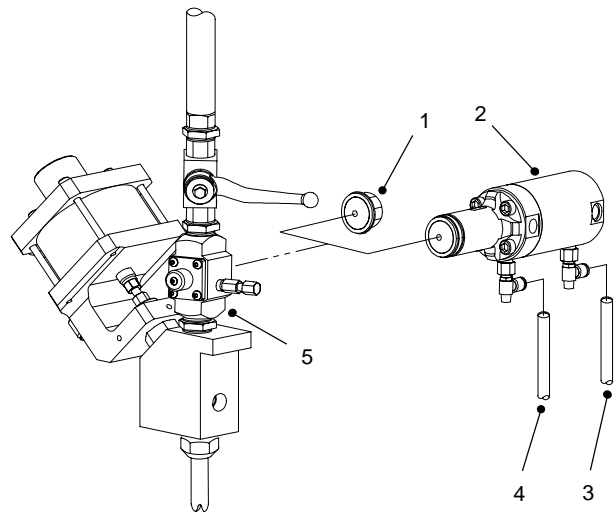

Figure 2 Installing the Air Injector
1. See Figure 2. Remove the plug (1) from the air injector manifold (5). Make sure that the O-ring remains in the manifold body groove.
2. Lubricate the O-ring and air injector (2) threads with general purpose grease.
3. Install the air injector (2) onto the manifold (5) and hand tighten.
1. See Figure 2. Disconnect the tubing from the extend (1) and retract ports (2).
2. Remove the air injector (2) from the manifold (5). Apply general purpose grease to the check valve area in the port.
3. Install the plug (1) to the manifold (3) and tighten securely.